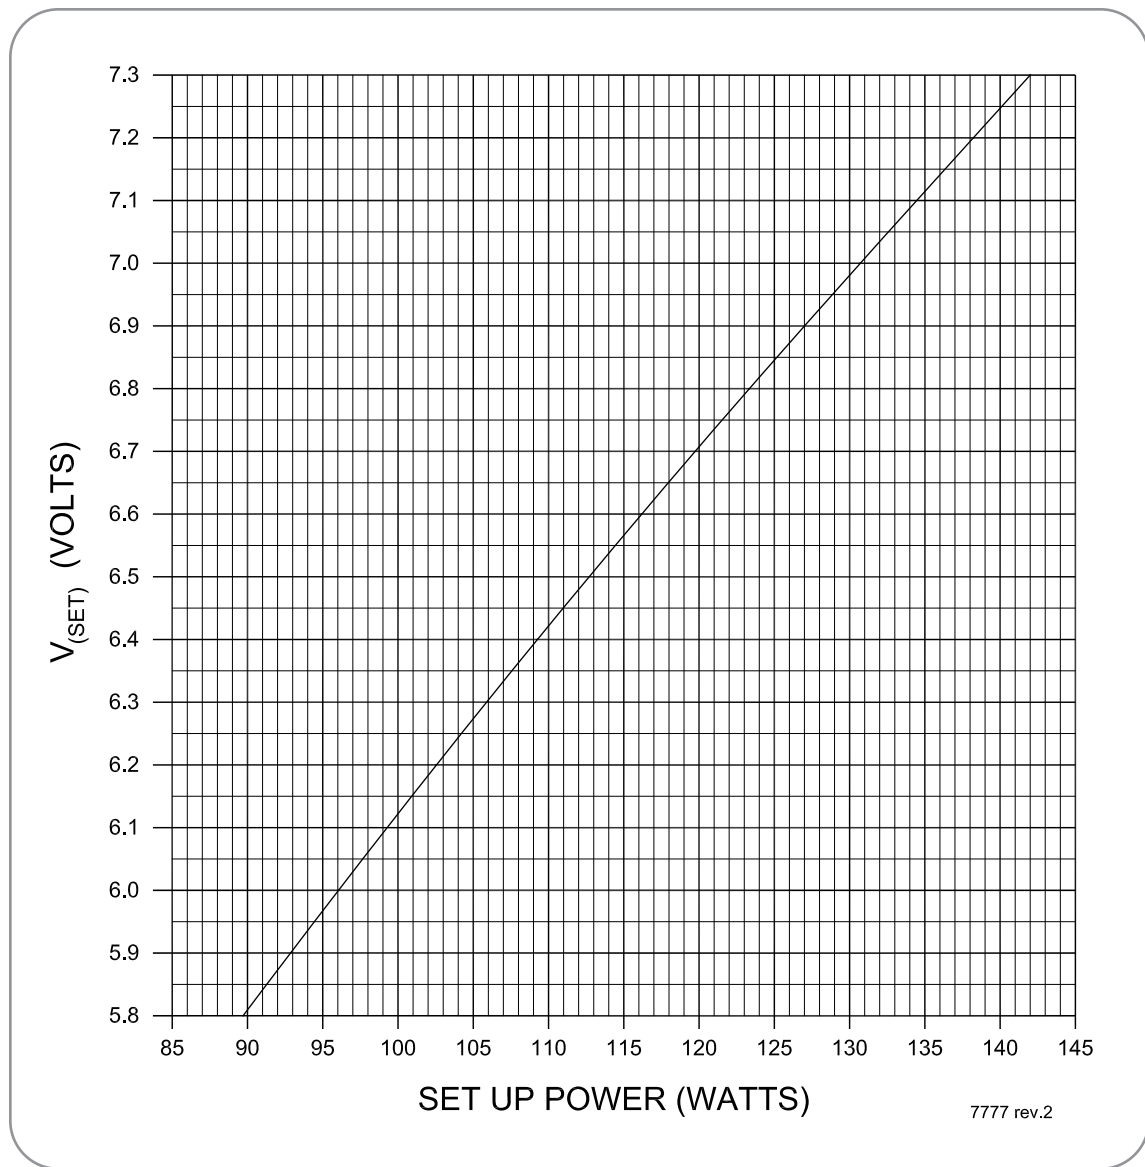

Figure 12 V_{set} Vs Set up Power
This relationship is shown in Figure 12. The graph gives V_{set} as a function of set-up power. In determining power (P) consider the following example:
SET UP POWER from Figure 4  V_{set} from Figure 12
Set up power is found by adjusting the desired power for ambient temperature. V_{set} is determined from set up power as shown in Figure 12.
- 4) Use Figure 12 to determine the related V_{set} and record as Item 6.
- 7) Refer to Figure 12 to determine the related V_{set} and record as Item 6.